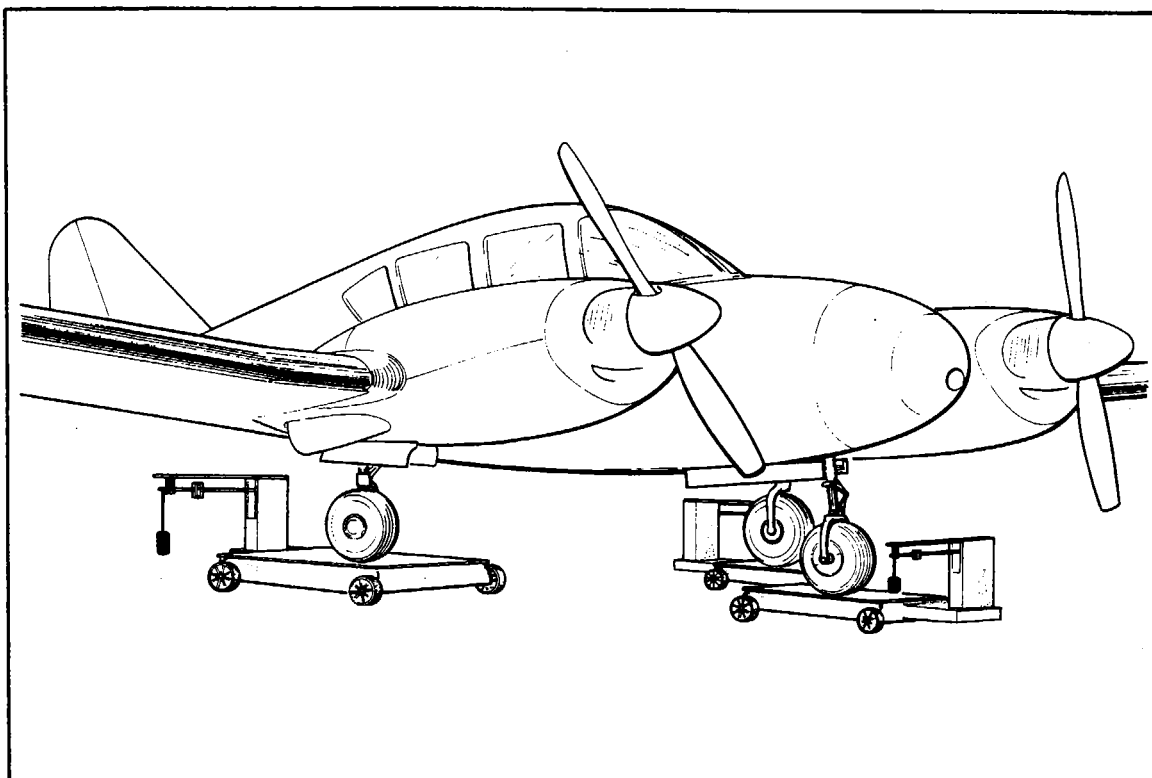

Figure 2-8. Weighing
**2-12. WEIGHING.** (Refer to Figure 2-8.)